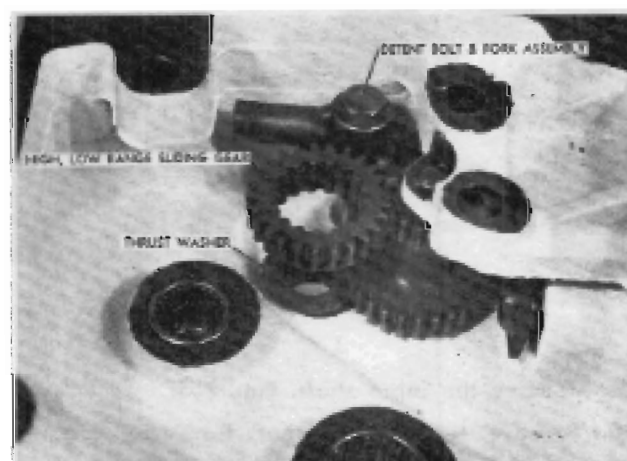

FIGURE 12
6. Lift up on the reduction gear and slide the input shaft thrust washer into position. Figure 12.
7. Install the sliding gear into the high-low range fork with the groove down. Figure 12.